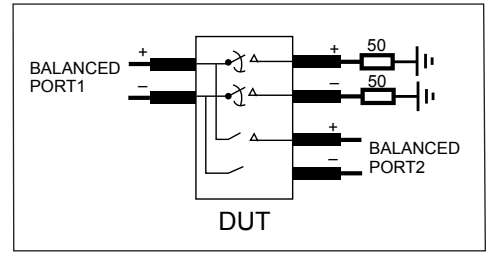

**Fig 1: Diff. Insertion Loss and Return Test Circuit**
2. Refer to figure 1 for test setup